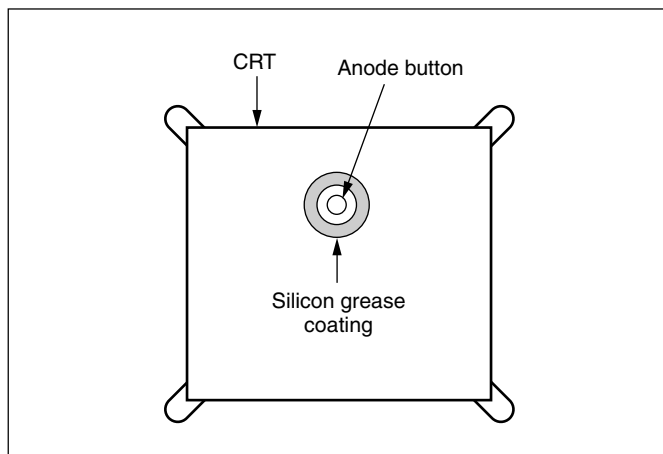

Fig. 7
- Subsequent to replacement of the CRT and HV transformer or repair of the anode cap, etc. by dismantling them, be sure to coat silicon grease for electrical insulation as shown in Fig. 7.
- 1. Wipe around the anode button with clean and dry cloth. (Fig. 7)